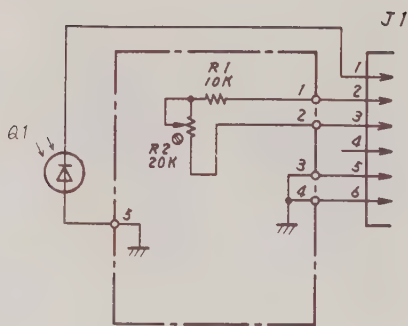

Fig. 6-10 Circuit Diagram of
- Fig. 6-10 : Circuit Diagram of MA911A/912A Optical Power Sensor.